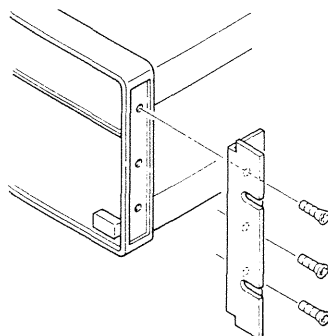

Fig. 8-2
(2) For EIA racks, attach a rack mounting brackets as shown in FIG. 8-2.